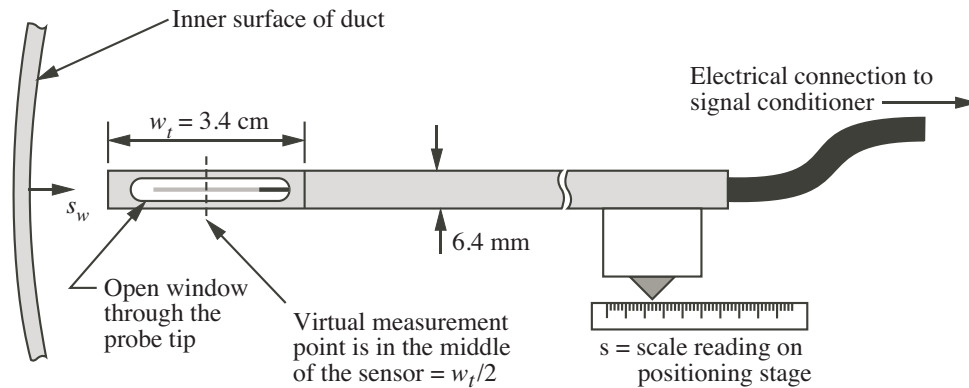

Figure 4: Detail of the velocity probe tip.
Figure 4 shows the location of the sensing element in the probe tip. The sensing element looks like a small cylinder suspended in the center of an opening in the otherwise solid probe assembly. For the purpose of this laboratory exercise the velocity is assumed to be measured at a *virtual sensor* location at the center of the opening in the probe tip. In other words the velocity measurement is assumed to occur at a distance  $w_t/2$  from the physical end of the probe.
The location of the velocity sensor in the duct is controlled by a manual positioning stage. The user cranks the stage to move the probe. The position is indicated by a linear scale on the side of the positioning stage. Figure 4 shows the schematic relationship between the probe position in the duct and the position indicated on the positioning stage. The indicator on the positioning stage defines the value of  $s$ . When the probe tip is touching the inner surface of the duct wall the indicator on the positioning stage has a value of  $s$  called  $s_0$ .
3. Turn the crank on the linear stage until the probe is near the centerline. Inspect the probe tip by looking axially along the duct from the open end. Refer to Figure 4. In the box marked *Probe tip offset* record the distance from the free end of the probe to the center of the sensor.